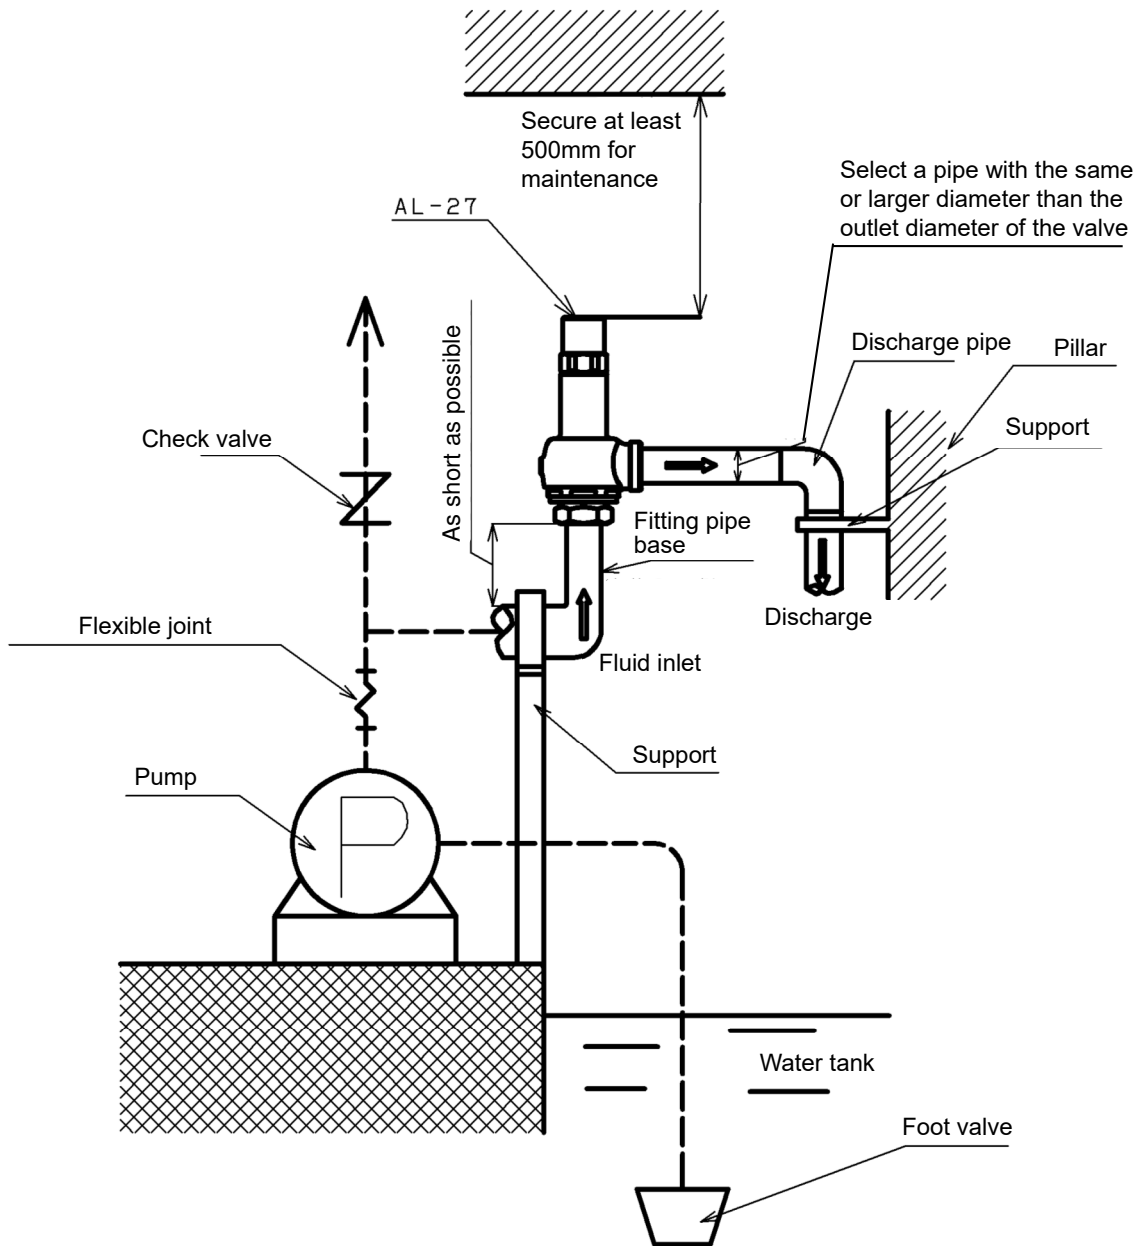

Figure 5. Piping example
3. Install the product vertically with the cap [11] upward. Taking an example with Figure 5, the product must be vertical against water surface in the tank because the surface is horizontal.
### 7.1 Fitting pipe base (See Figure 5.)
### 7.2 Discharge pipe (See Figure 5.)